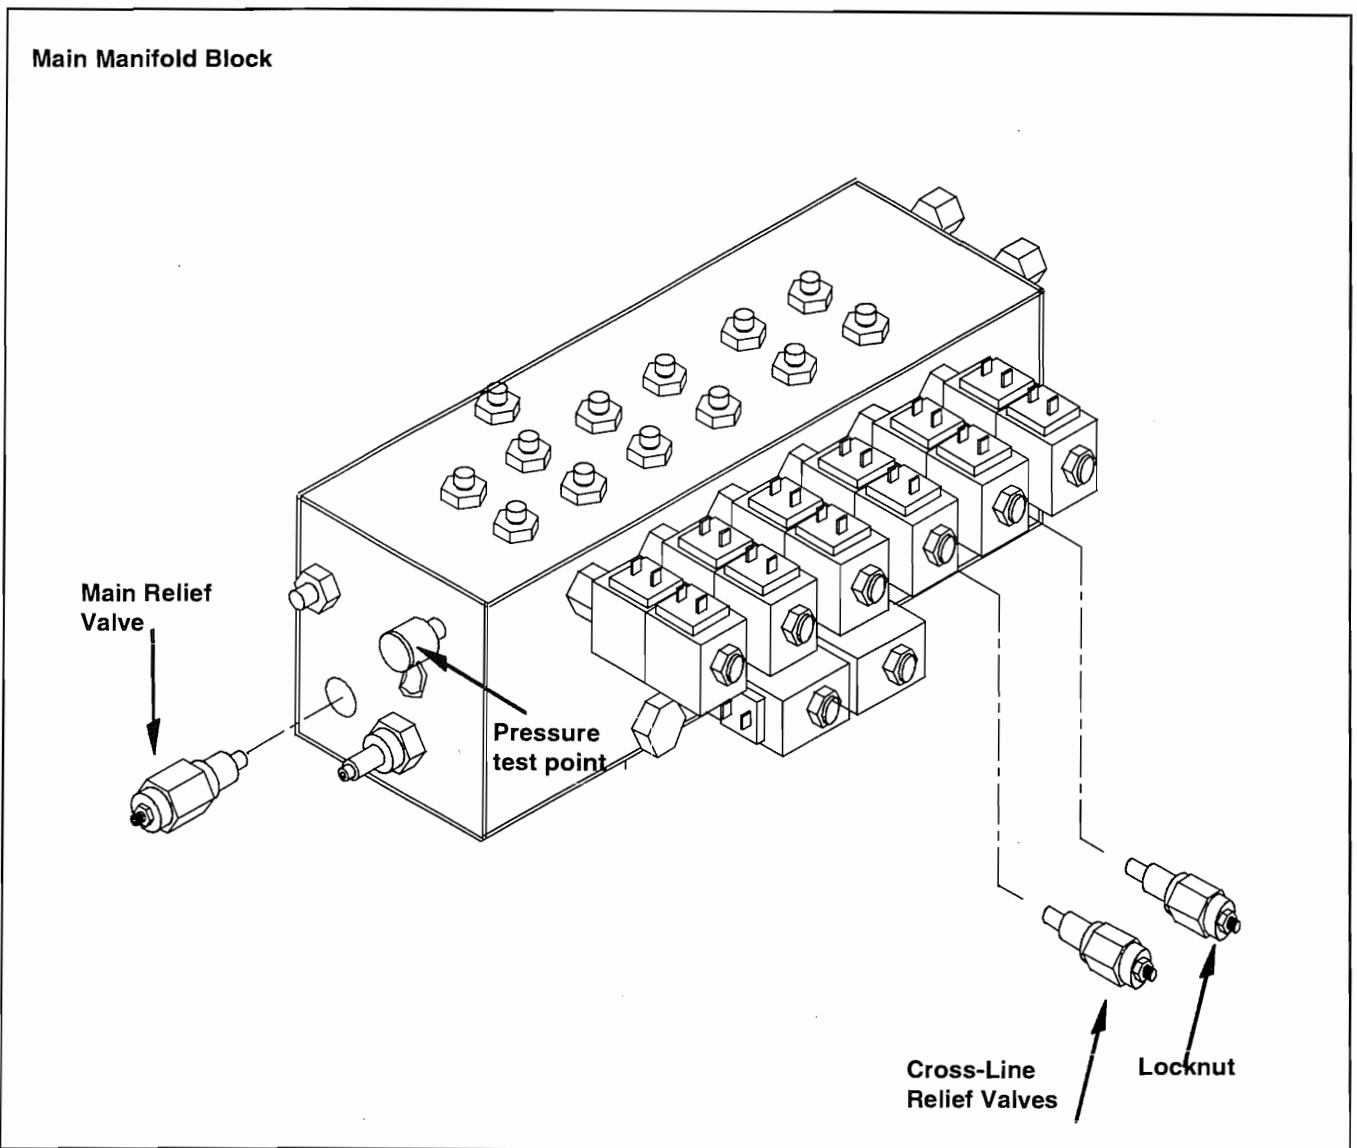

Figure 4-5 Main Manifold Block
4.5 Setting Hydraulic Pressures (Figure 4-5)
MAIN RELIEF VALVE (Figure 4-5)
SLEW CROSS-LINE RELIEF VALVES (Figure 4-5)